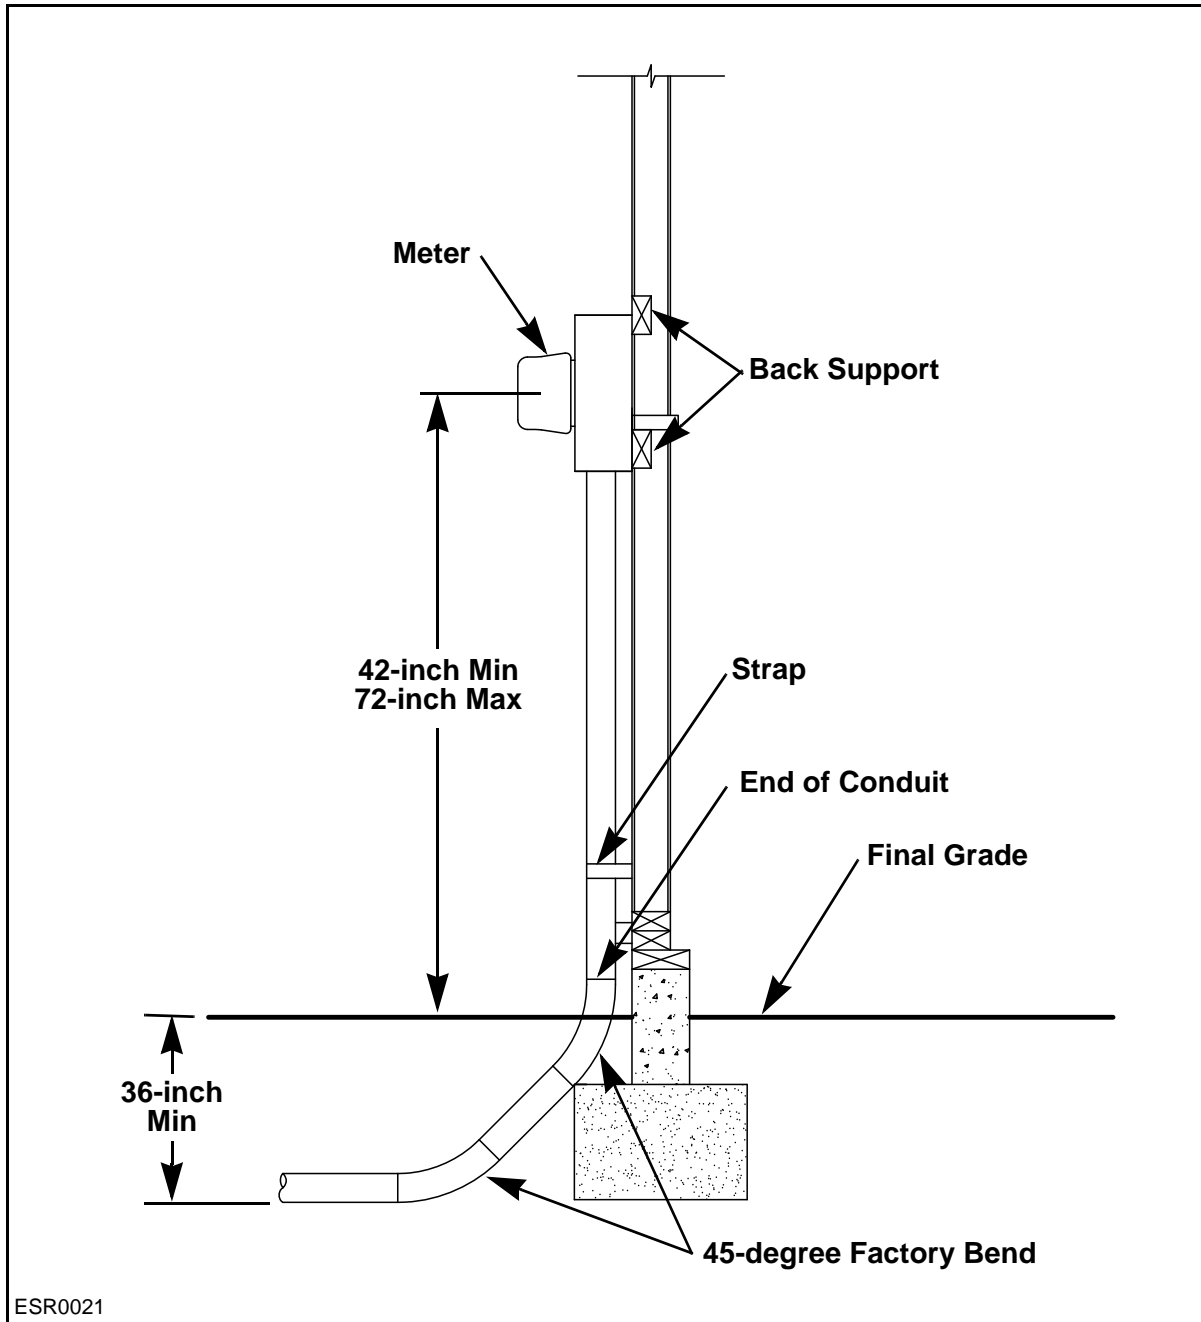

Figure 7-7: Seismic Footing Design
- See **Figure 7-7** for the optional seismic footing design.